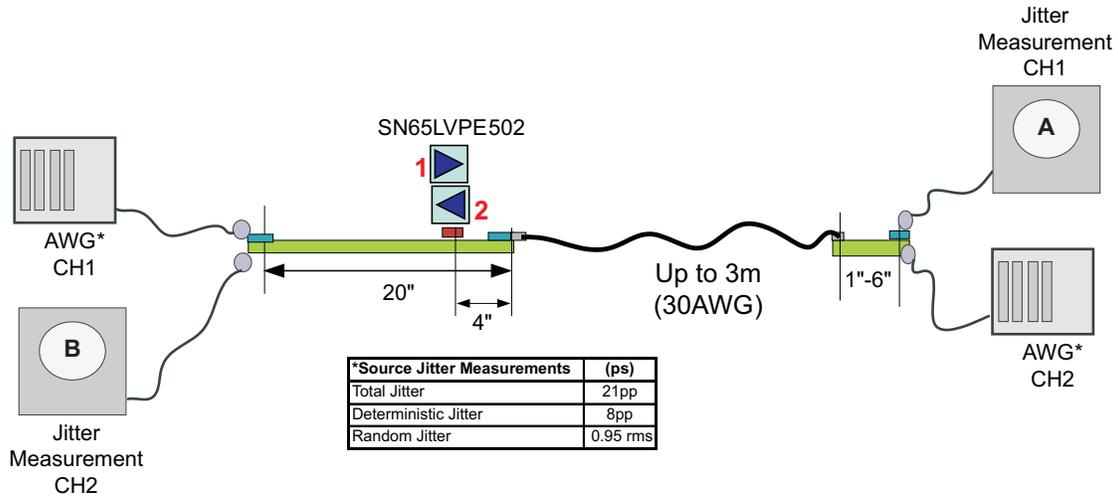

Figure 8. Jitter Measurement Setup
(1) Includes Rj at 10-12(2) Measured at the end of reference channel in Figure 8 with K28.5 pattern, VID=1000mVpp, 5Gbps, -3.5dB DE from source.
(3) UI = 200ps
(4) Rj calculated as 14.069 times the RMS random jitter for 10-12 BER